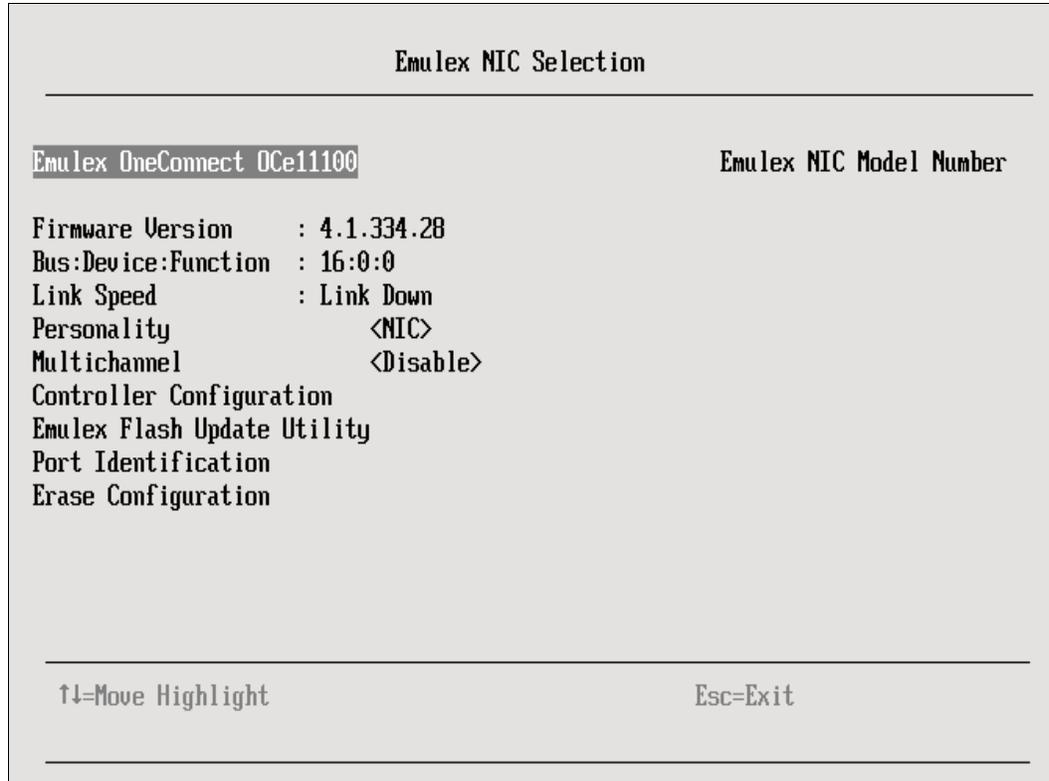

Figure 3-32 Emulex NIC Selection
1. Select the adapter, in this case the Emulex 10 Gb, to configure or view the network adapters. Figure 3-32 shows the Emulex network interface controller (NIC) Selection window.